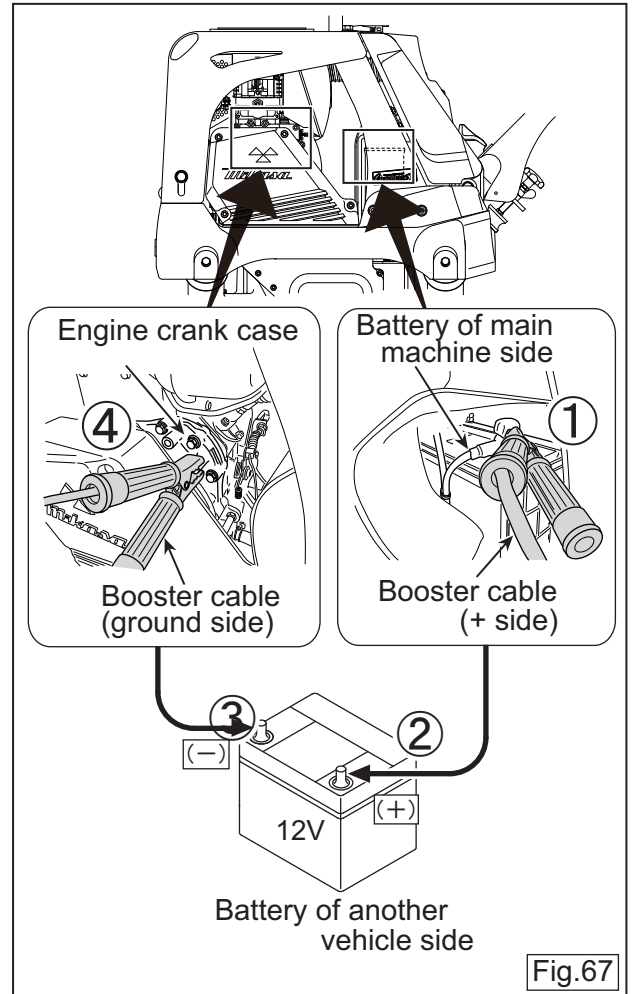

Fig.67
- ⑤ Remove the handle cover, and if the accumulator move about 2 to 3 cm when moved the travel lever to forward position as shown in Fig. 67, air bleeding is completed. If there is the lack of air bleeding, do the procedure "1" again. (Fig.64, 65)
- ⑥ Attach the hand pump breather plug, put on the plug cap. After making sure the hydraulic oil in the pump is at OIL LEVEL, attach the breather plug.
Starting method using booster cable (Jump-starting)(Fig. 67)
- Unpainted and protruded part of the crank case of the engine shown by "Fig. 67" (Connect the ground wire.)